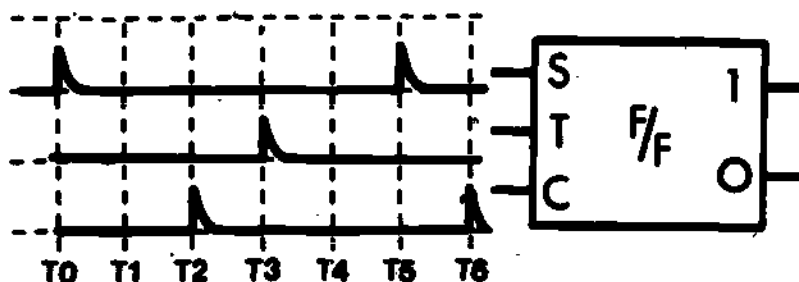

Figure 15
Draw the correct "1" output waveform for the flip-flop in Figure 15 with the Set (S), Clear (C), and Toggle (T) inputs shown. (Assume flip-flop originally in the Clear state.)